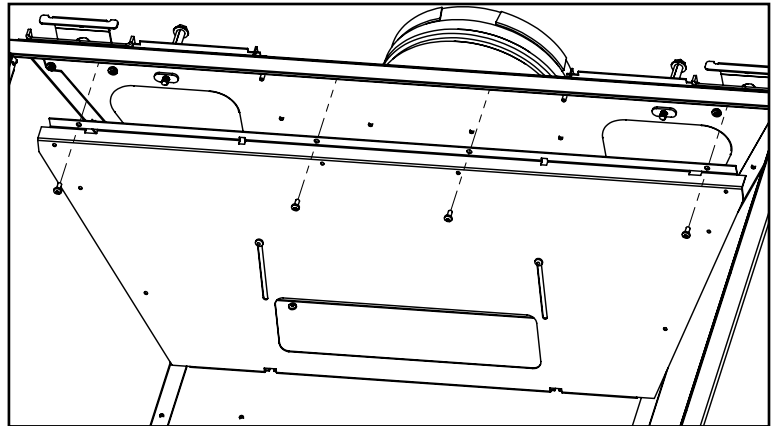

Figure 70: RZ41 Baffle Removal / Installation
2. Using a Torx T20 screwdriver remove the front four (4) screws from the top of the firebox.
3. Remove the existing baffle by lifting it off the two (2) rear firebox screws.
4. Install the new power vent baffle re-using the screws removed screws (Figure 70).
**Table 10: Minimum 'H' for Figure 70.**